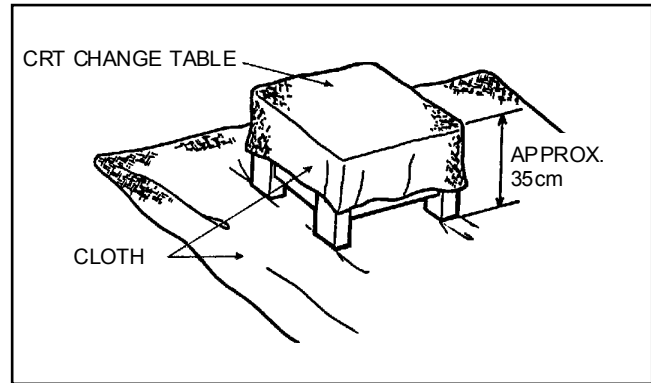

Fig. 5
- 1. Putting the CRT change table on soft cloth, the CRT change table should also be covered with such soft cloth (shown in Fig. 5).